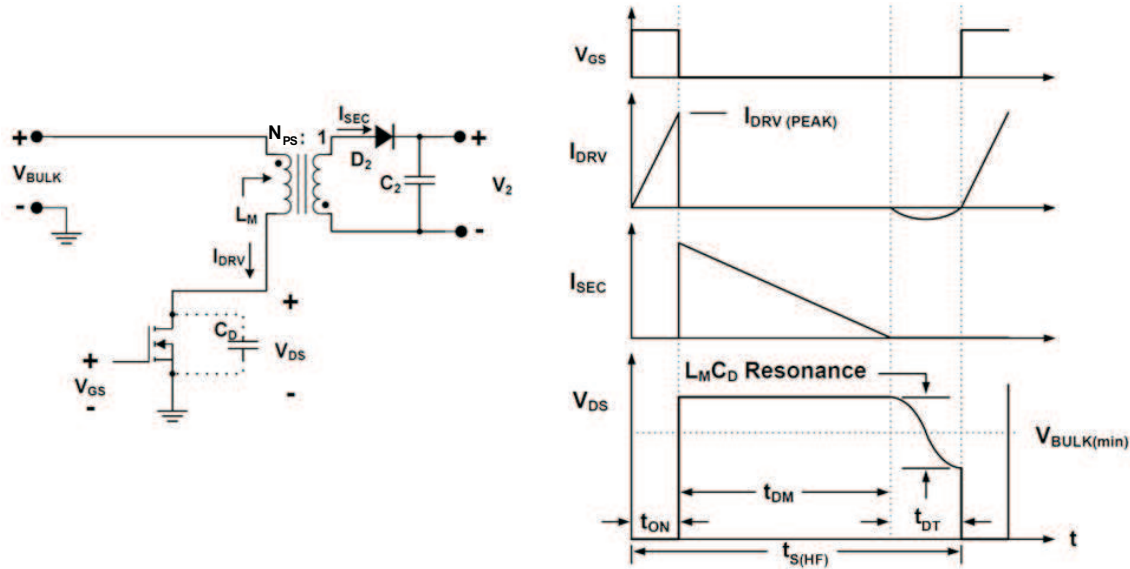

图 20. Basic Flyback Converter and Waveforms at Peak Load and Minimum V_{BULK} Voltage
To begin a power supply design, the power supply designer needs to know the peak power to be delivered by the converter, the input voltage range, the output voltage, and an estimate of the maximum allowable bulk voltage ripple. Select the maximum allowable stress voltage for the external power MOSFET. The stress voltage, V_{DS} , determines the reflected secondary voltage that resets the flyback transformer and the turn ratio between primary and secondary. A simplified diagram of the converter and its waveforms are shown in 图 20.
The minimum switching period is when the converter is operating in the Frequency Modulation (FM) mode, referred to as $t_{S(HF)}$. This switching period must equal the sum of the switching intervals at minimum input voltage, maximum load, as shown in 图 20 and described in 公式 1. The switching intervals are t_{ON} , the conduction time of the MOSFET; t_{DM} the demagnetization time of the transformer and t_{DT} , the duration of the deadtime, equal to half of the resonant cycle, after the transformer is de-energized.